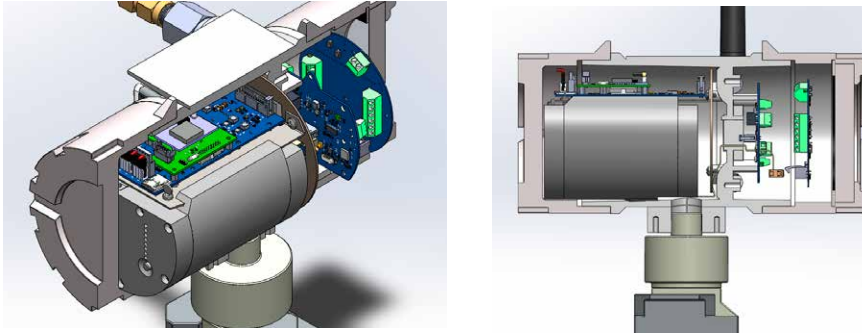

Figure 3.5 - Smart battery pack installed
- The smart battery pack connection is an eight pin connector located at the end of the main board in the rear compartment, just before the "Battery 1" and "Battery 2" connections, shown in Figure 3.5, pg. 62.